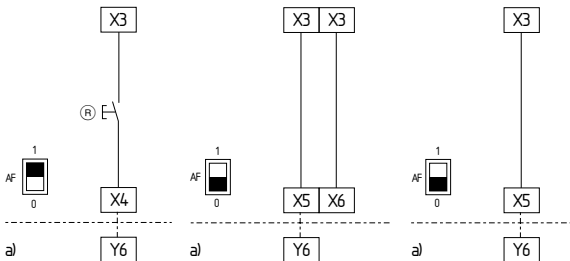

Fig. 5      Fig. 6: Time offset  $\infty$       Fig. 7: Time offset 100 ms
**External reset button (with edge detection) (see Fig. 5)**